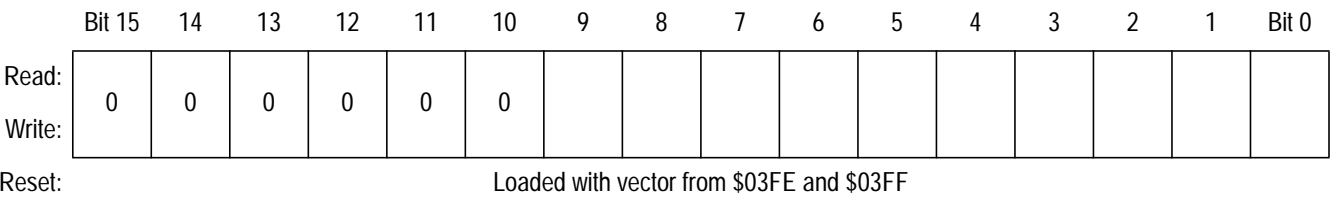

Figure 3-5. Program Counter
The program counter (PC) shown in **Figure 3-5** is a 16-bit register that contains the address of the next instruction or operand to be fetched. The six most significant bits of the program counter are ignored internally and appear as 000000 when stacked.